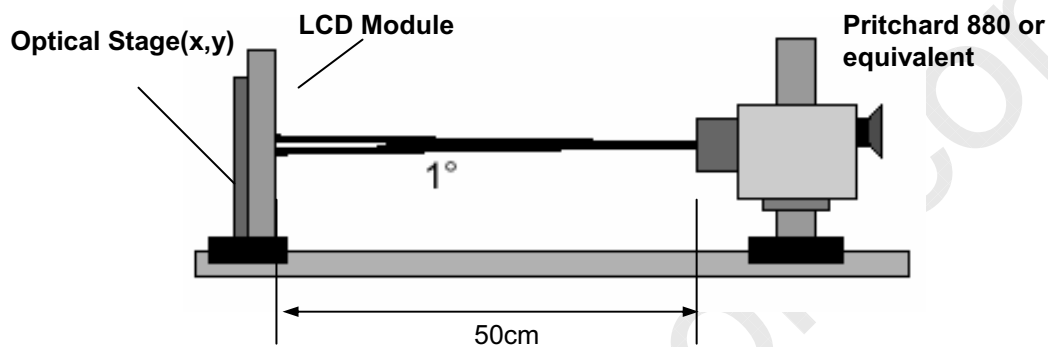

FIG. 10 Optical Characteristic Measurement Equipment and Method
FIG. 10 shows additional information concerning the measurement equipment and method.
2. Surface luminance is determined after the unit has been 'ON' and 1Hour after lighting the backlight in a dark environment at  $25 \pm 2^{\circ}\text{C}$ . Surface luminance is the luminance value at center 1-point across the LCD surface 50cm from the surface with all pixels displaying white. For more information see the FIG. 10.